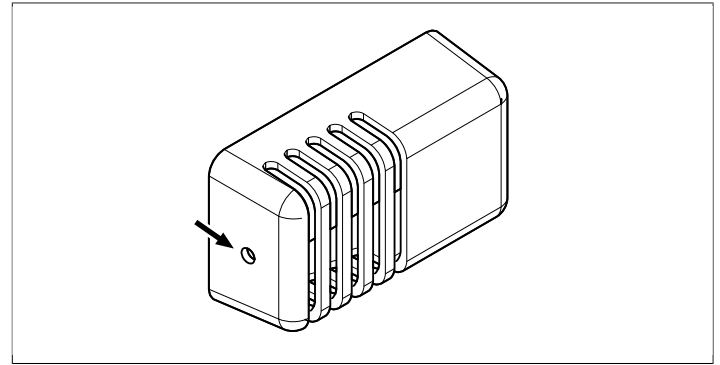

Figure 22: Resetting the sensor temperature cut-out
- The sensor temperature cut-out prevents the sauna woodwork from overheating. If the sensor temperature cut-out is triggered, the electricity supply to the heater will cut off. When the temperature in the sauna cools down, it can be reset. The cause of the overheating must be established before resetting the temperature cut-out. To reset it, press the spring-loaded button with a small implement such as a paper clip (see **Figure 22**, Page 12).